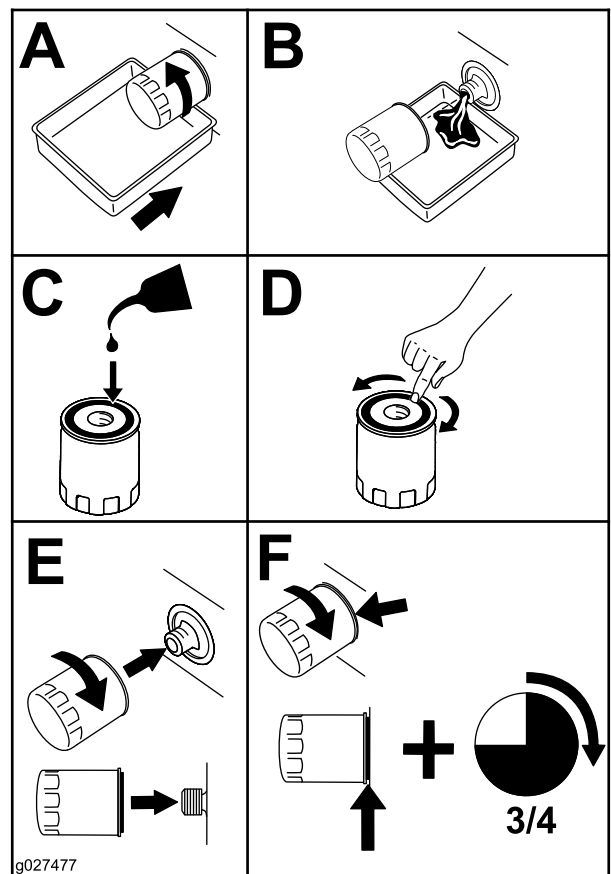

Figure 46
- Install the filters as shown in Figure 46.